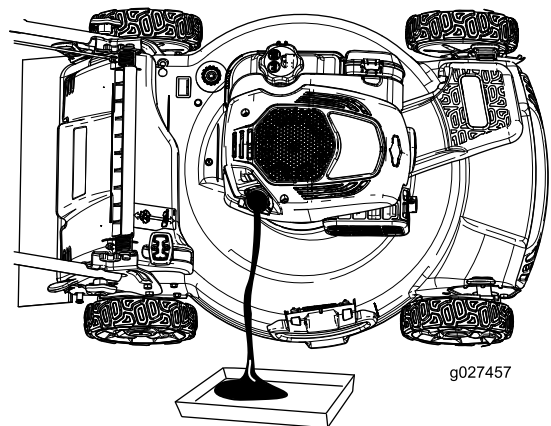

Figure 26
4. Tip the machine onto its side (so that the air filter is up) to drain the used oil from the oil-fill tube (Figure 26).